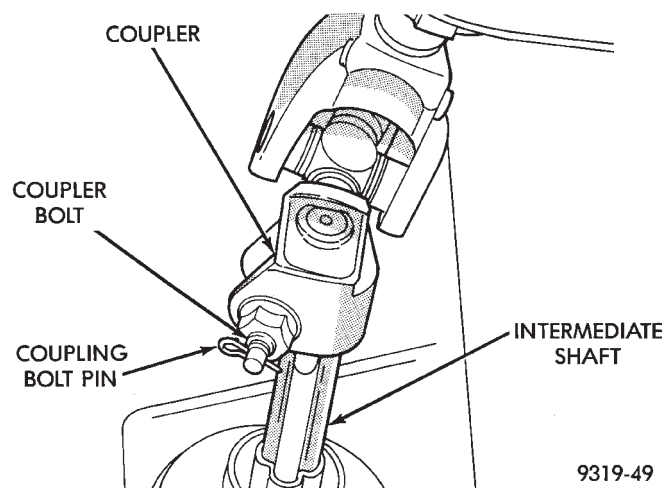
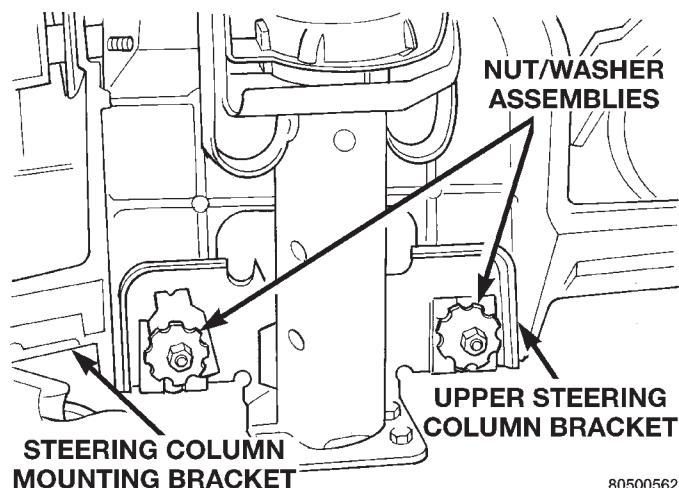

Fig. 26 Retaining Pin And Coupler Bolt
Fig. 28 Upper Steering Column Assembly Mounting
(29) Remove the retaining pin and the bolt from the coupler (Fig. 26). Then separate the coupler from the intermediate shaft.
(31) Support the weight of the steering column, to prevent damage to the lower bracket and the plastic adapter tabs. Then remove the 2 nut/washer assemblies, attaching the upper steering column assembly bracket (Fig. 28) to the steering column mounting bracket.
(4) Raise steering column, until upper steering column bracket, is installed on studs in steering column mounting bracket (Fig. 28). Install but do not tighten the 2 nuts attaching the steering column assembly to the mounting bracket.
(5) Position steering column, so lower steering column mounting bracket is resting against the 2 lower steering column mounting bolts. This will determine for-and-aft position of steering column in vehicle. Temporarily install upper and lower steering column shrouds and the center instrument panel outlet bezel. Visually center steering column shrouds in instrument panel opening with steering column tilted full up. When centered, tighten upper and lower steering column assembly fasteners to hold the steering column in place. Then again remove the upper and lower steering column shrouds and the center instrument panel bezel.
(7) Install the steering column coupler onto the intermediate shaft (Fig. 26). Install coupler bolt (Fig. 26) into steering coupler and torque bolt to 28 N·m (21 ft. lbs.). **Be sure to install coupler retaining pin into coupler bolt (Fig. 26).**